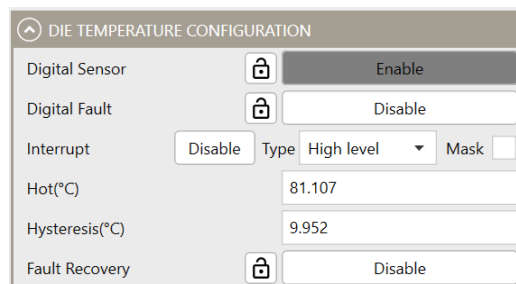

Figure 20: Die Temperature Configurations
22. Figure 20 shows how to configure the die temperature parameters.